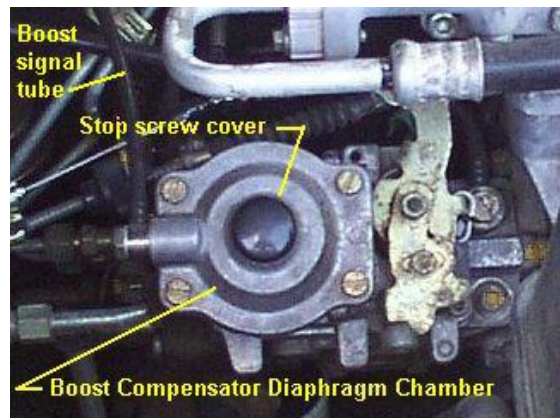

Figure 1
3.2. The stop screw is accessed by removing the light steel cap pressed into the recess on top of the diaphragm cover. This can be removed by carefully prising it out with a rocking motion, using two fine screwdrivers. Figure 1 shows the original cap replaced with a 22mm chair leg plug, after adjustment. This improves waterproofing.